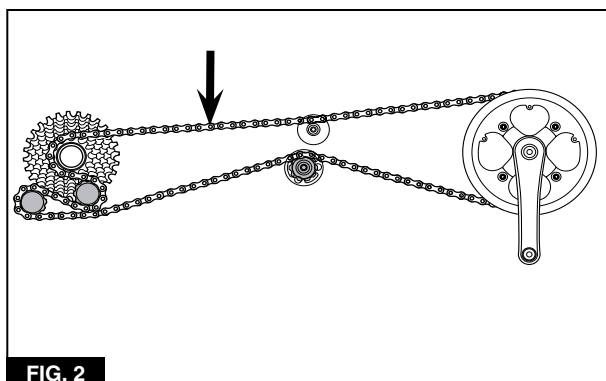

FIG. 2
6. Torque the derailleur mounting bolt (D, **Figure 2**) to the specification in Table 5.
a. The chain is too long if the upper run sags as shown in **Figure 2**.
a. The chain is too long if the upper run sags as shown in Figure 2.